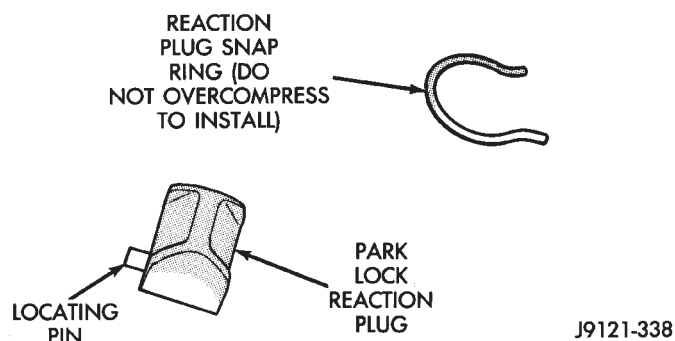

Fig. 60 Reaction Plug Locating Pin And Snap Ring
(11) Install pawl shaft retaining bolt. Tighten bolt to 27 N•m (20 ft. lbs.) torque.
(12) Install park lock reaction plug. **Note that plug has locating pin at rear (Fig. 60). Be sure pin is seated in hole in case before installing snap ring.**